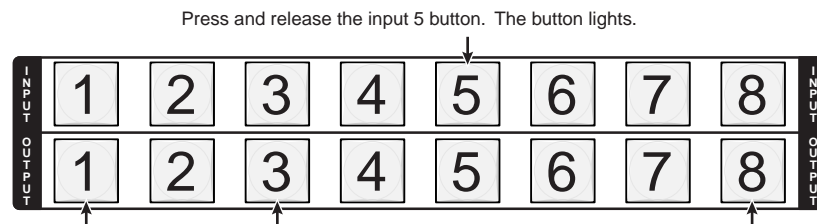

Figure 3-27 — Select an input
3. Press and release the input 5 button (figure 3-27).